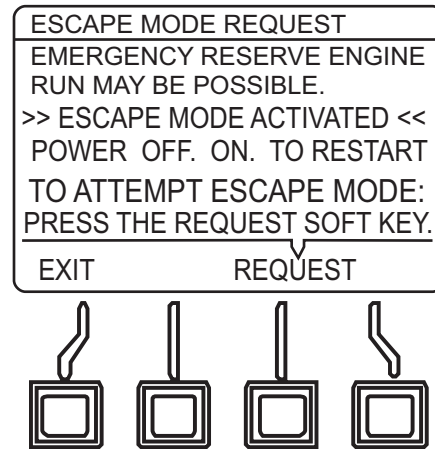

Figure 100. Escape Mode Activated Screen
- Once the **[REQUEST]** button has been pressed, the display will indicate that escape mode has been activated (Figure 100).